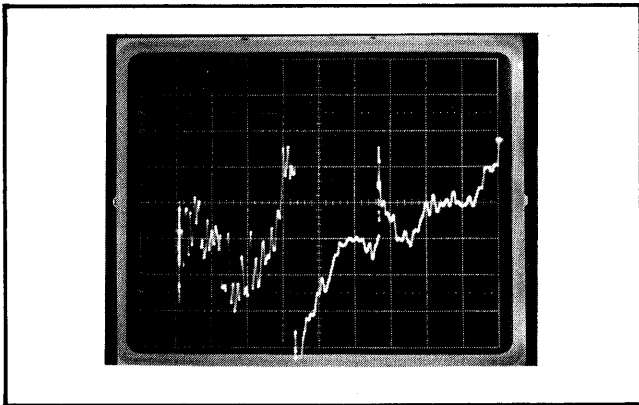

Figure 5-32. Model 6647A Unleveled Full-Band Sweep
- f. Adjust oscilloscope vertical control to obtain a waveform similar to that shown in Figure 5-32.